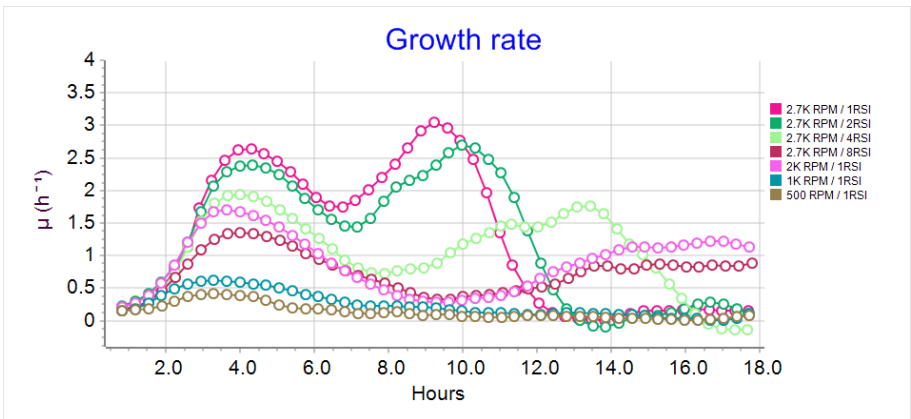

**Figure 4. Temperature boarders and optimal growth zones of prokaryotes and their classification.**
- 8.1 **Temperature distribution specifics (psychrophiles, mesophiles, thermophiles).** The optimal growth temperatures of microorganisms are divided in three principal groups (see fig. 4):
- Psychrophiles (I) – obligate (1) and facultative (2);
- Mesophiles (II);
- Thermophiles (III) – thermotolerant (3), facultative (4), obligate (5) and extremophile (6).